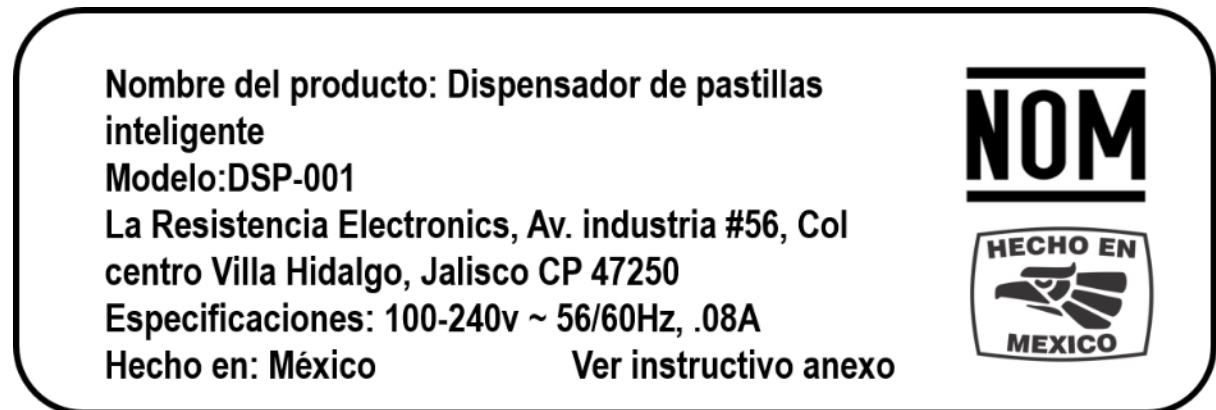

Figure 45- Product labeling
- NOM-024-SCFI-2013 (Figure 45)